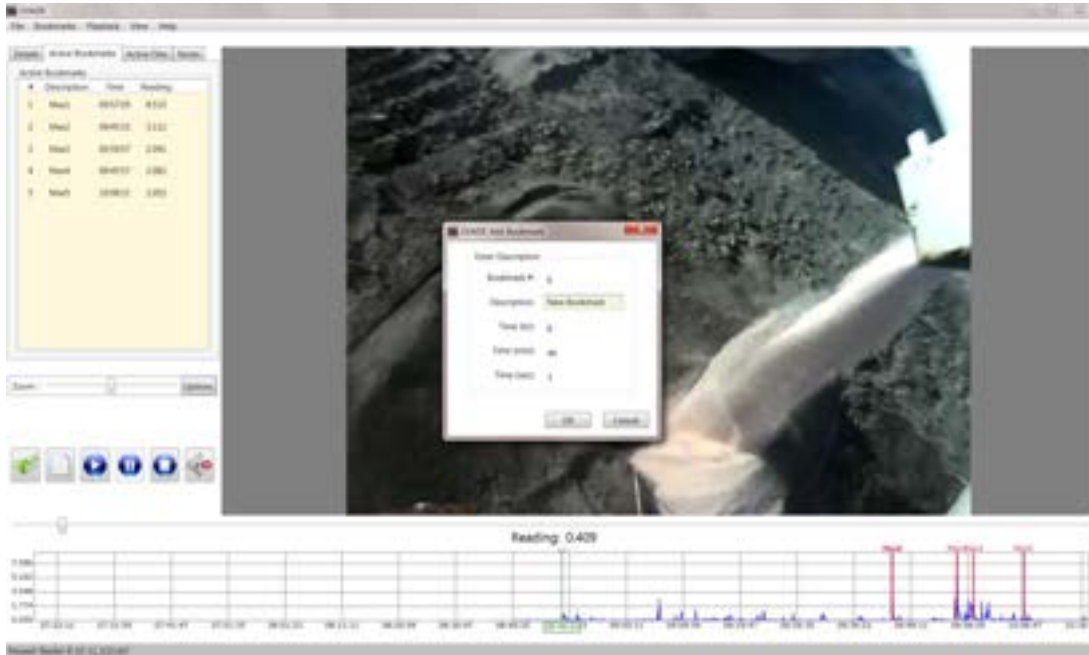

Figure 33. The Add Bookmark dialog box.
- Once the vertical green line is at the desired location for the bookmark, click **Add** from the File menu or use the keystrokes Ctrl+B. The Add Bookmark dialog box opens prompting for a bookmark description (Figure 33).